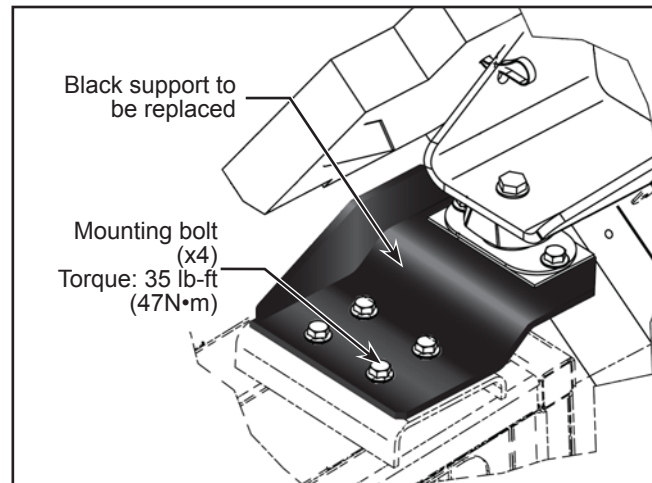

Figure 3 - Upper Black Support (Left Side Shown/ Right Side Similar)
- 1.14. Replace the front supports with new upper supports N66783 (left support) and N66782 (right support) using the retained mounting bolts. Apply Loctite 242 thread locker or the equivalent to the bolts . See Figure 3.